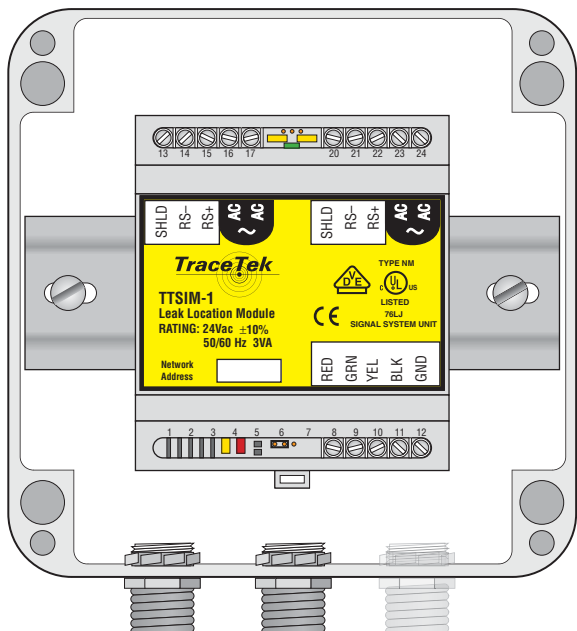

Figure 2. NEMA 4x Enclosure
#### Mounting the TTSIM-1 module in the optional NEMA-4X Enclosure-- Figure 2
- A typical outdoor or harsh environment installation will require up to three holes in the TTSIM-ENC: one for inbound power and telemetry, one for outbound power and telemetry and one for the sensor cable leader. See Figure 2.